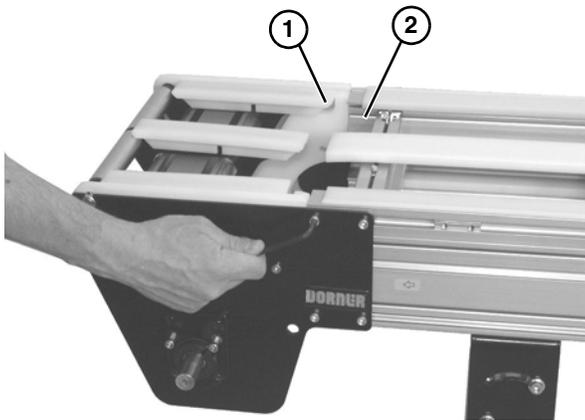

Figure 42
When reinstalling the drive spindle tail assembly, the terminal assembly (Figure 42, item 1) should mate flush with the conveyor frame (Figure 42, item 2).